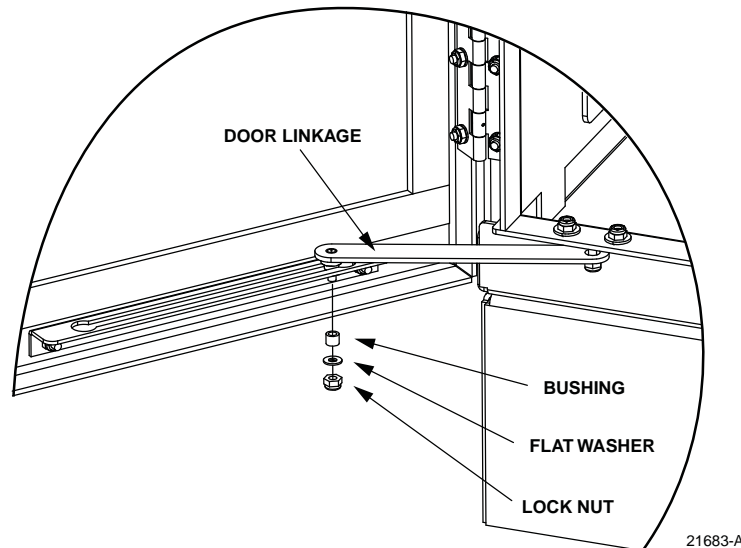

Figure 41. Door Linkage Hardware
3. Use a 3/8-inch nut driver and wrench to remove the locking nut, brass bushing, and capscrew that secures the door linkage to the door bracket as shown in Figure 41. Save the nut, bushing, and capscrew for reuse.